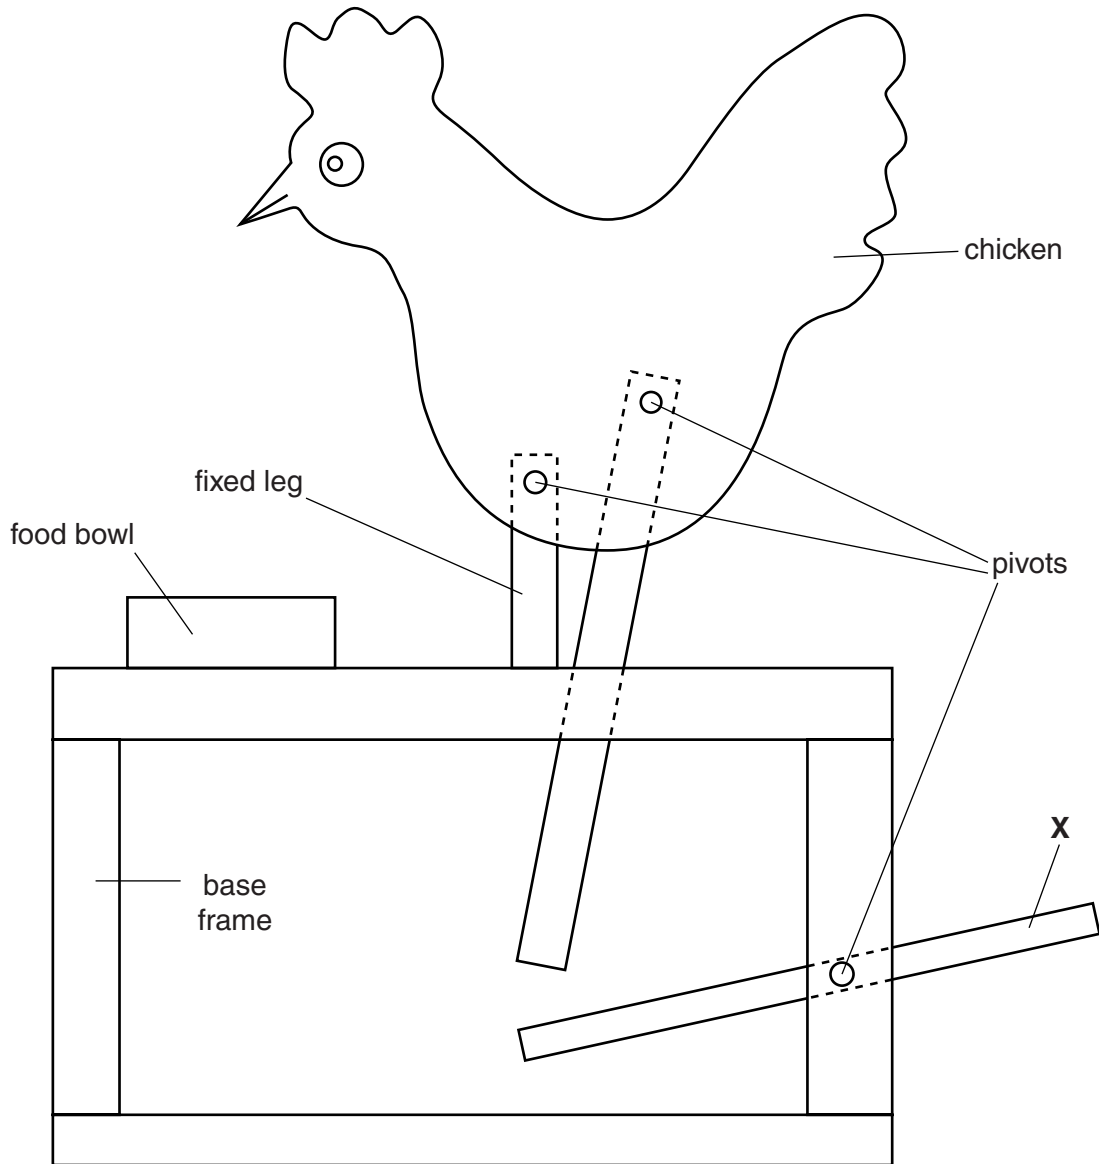

Fig. 7
- 4 Fig. 7 shows an animated model of a pecking chicken. The model is operated by pressing down at **X**.
- (b) Show on Fig. 7, by drawing **four** arrows, the movements made by the model.